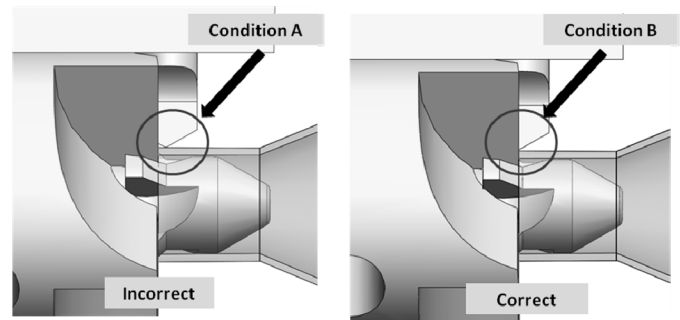

Figure 2
- If the 3 Way Cutter binds on the case or does not chamfer correctly, condition A may exist, as shown in Figure 2. Loosen the 8-32 x 1/8 Setscrew (I) and position the Carbide Cutter Head (J) so the leading edge of the Cutter Head is lined up just past the tip of the Outside Deburring Cutter (C), as shown in condition B, and retighten the 8-32 x 1/8 Setscrew (I).